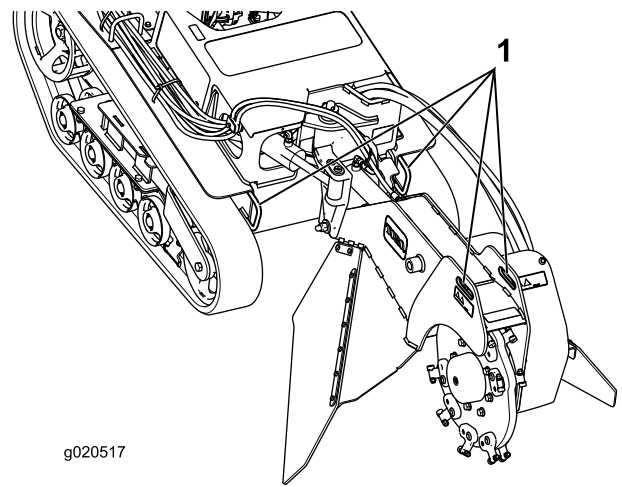
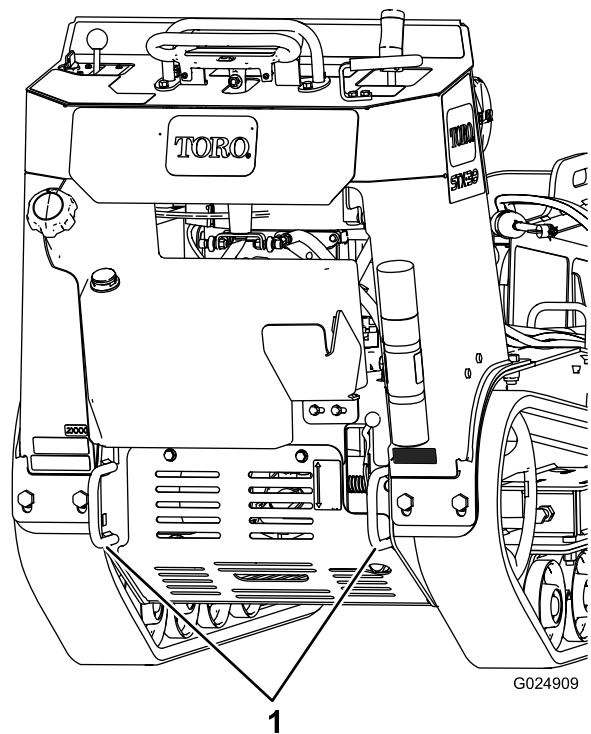

**Figure 22**
**Figure 23**
3. Secure the machine to the trailer with chains or straps using the tie-down/lift loops at the front and rear of the machine (Figure 22 and Figure 23).
You can lift the machine using the tie-down/lift loops as lift points (Figure 22 and Figure 23).